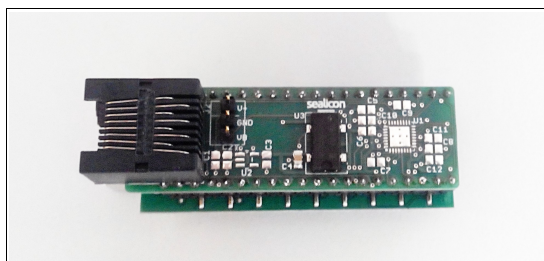

Figure 4: FGD-03F EVAL as gateway inserted on DLP2232H driver
3. Insert the FGD-03F EVAL board as gateway, with no FGD-03F sensors, onto the DLP2232H driver, as shown in Figure 4.